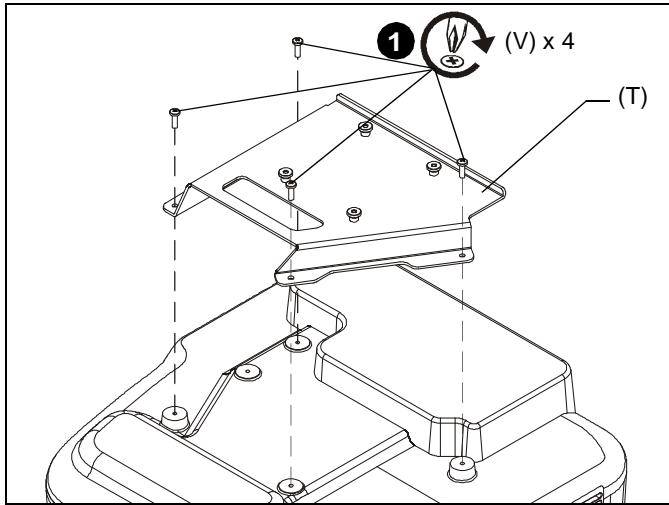

Figure 10
1. Attach projector interface (T) to projector using four M4 x 12mm Phillips cap head screws (V). (See Figure 10)